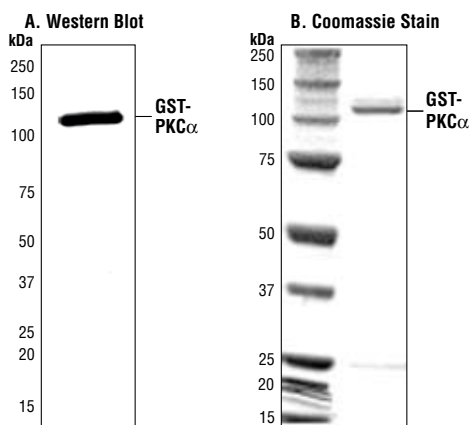

Figure 1. The purity of the GST-PKC α fusion protein was analyzed using SDS/PAGE followed by anti-GST Western blot (A) or Coomassie stain (B).
The activity of PKC is under the control of three distinct phosphorylation events. Specifically, Thr500 in the activation loop, the Thr641 autophosphorylation site and the Ser660 hydrophobic site at the carboxy terminus of PKC β are phosphorylated *in vivo* (2). For the atypical PKC isoforms, there is no phosphorylation in the hydrophobic region, which has a glutamic acid residue in place of the serine or threonine residue found in other PKC isoforms. The enzyme PDK1, or perhaps a close relative, is responsible for PKC activation.PKC α consists of 672 amino acids and is expressed ubiquitously. It performs several important roles in the control of major cellular functions such as cell proliferation, apoptosis, differentiation and motility. PKC α is also associated with the malignant phenotype of several tumors, such as gliomas and breast cancers (10,11).**Source/Purification:** The GST-Kinase fusion protein was produced using a baculovirus expression system with a construct expressing full length human PKC α (Met1-Val672) (GenBank Accession No. NM_002737) with an amino-terminal GST tag. The protein was purified by one-step affinity chromatography using glutathione-agarose.**Quality Control:** The theoretical molecular weight of the GST-PKC α fusion protein is 110 kDa. The purified kinase was quality controlled for purity using SDS-PAGE followed by Coomassie stain and Western blot [Fig.1]. PKC α kinase activity was determined using a radiometric assay [Fig.2]. A kinase dose dependency assay was performed to measure PKC α activity using HTScan™ PKC α Kinase Assay Kit #7579 [Fig.3].**Background References:**
- (1) Nishizuka, Y. (1984) *Nature* 308, 693–698.
- (2) Keranen, L.M. et al. (1995) *Curr. Biol.* 5, 1394–1403.
- (3) Newton, A.C. (1995) *J. Biol. Chem.* 270, 28495–28498.
- (4) Mellor, H. and Parker, P.J. (1998) *Biochem. J.* 332, 281–292.
- (5) Ron, D. and Kazanietz, M.G. (1999) *FASEB J.* 13, 1658–1676.
- (6) Way, K.J. et al. (2000) *Trends Pharmacol. Sci.* 21, 181–187.
- (7) Moscat, J. and Diaz-Meco, M.T. (2000) *EMBO Rep.* 1, 399–403.
- (8) Good, J.A. et al. (1998) *Science* 281, 2042–2045.
- (9) Sonnenburg, E.D. (2001) *J. Biol. Chem.* 276, 45289–45297.
- (10) Nakashima, S. (2002) *J. Biochem. (Tokyo)* 132, 669–75.